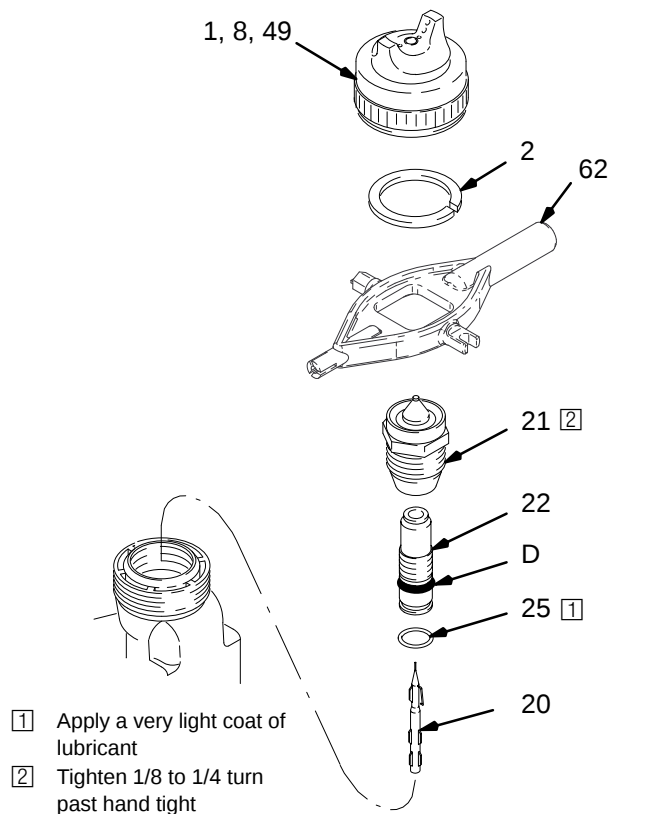

Fig. 11
2. Remove the air cap assembly. Point the front end of the gun up and squeeze the trigger while removing the fluid nozzle/resistor stud (21, 22) assembly with the multi-tool (62). See Fig. 11, page 23.
The resistor stud contact ring (D) is a conductive contact ring, **not** a sealing o-ring. See Fig. 11. To reduce the risk of sparking or electric shock, **do not** remove the resistor stud contact ring (D) or operate the gun without the contact ring in place. Do not replace the resistor stud (22) with anything but a genuine Graco part.